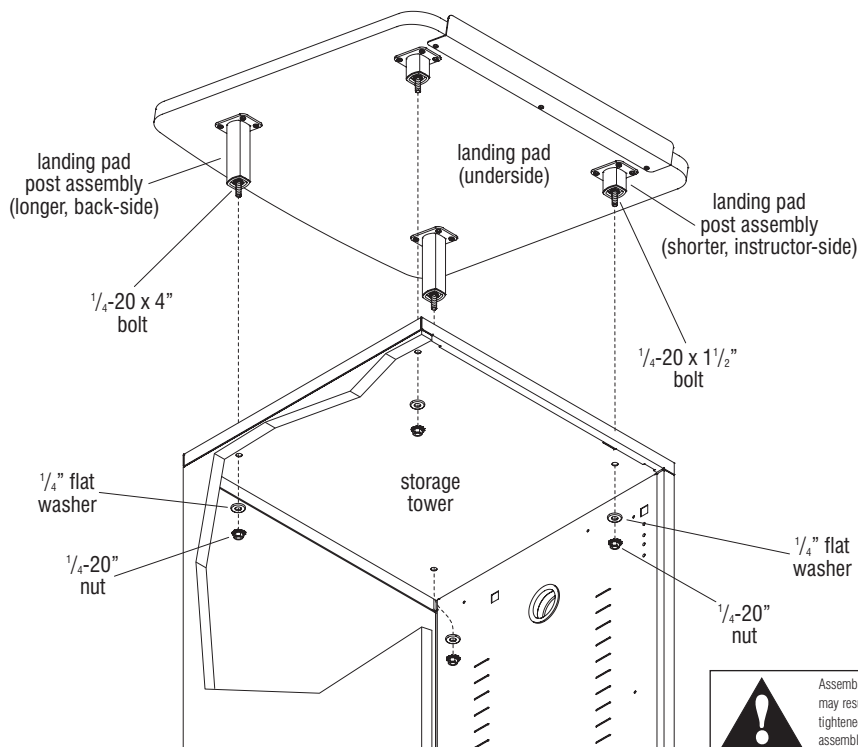

Figure 2
8. Orient the landing pad with the document ledge to the user-side of the storage tower as illustrated. Carefully position the landing pad post assemblies with installed bushings, posts & bolts such that the four bolts insert down through the four mounting holes in the top of the tower (Figure 2).
9. From inside the tower, locate the 1/4-20 bolts inserted through the top and place a 1/4" washer and 1/4-20 nut onto each bolt. Tighten nuts to secure landing pad to tower top (Figure 2).